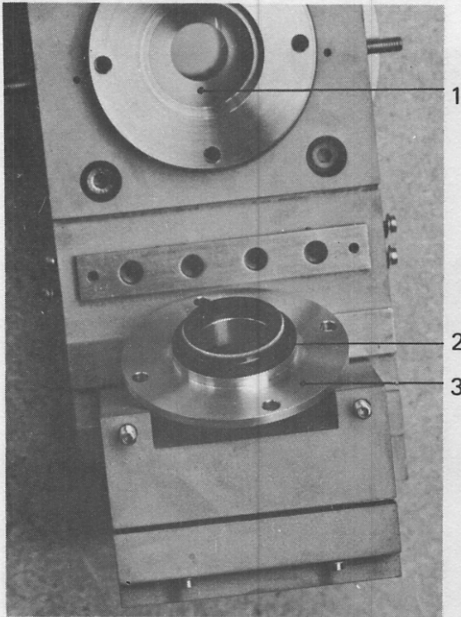

Fig. 6
- The bypass plate (Fig. 6) with the semi-circular milled slot is screwed over the appropriate outlet hole below the clean baseplate.